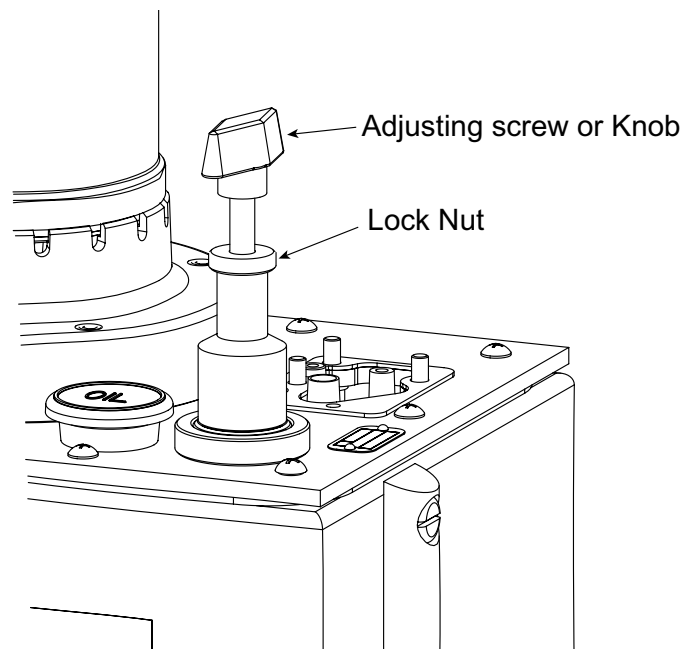

Fig. 6. Pressure Regulator Valve
- A. Loosen the locknut on the pressure regulating valve, and back the adjusting screw or knob out a few turns by turning it in a counterclockwise (CCW) direction (See Figure 6). This will decrease the setting to a lower than desired pressure.
- C. Slowly turn the adjusting screw or knob in a clockwise (CW) direction. This gradually increases the pressure setting. When the desired pressure is reached, cycle the pump again to verify correct pressure setting. Once set, lock the adjusting screw in position by tightening the locknut. Shut off the pump.